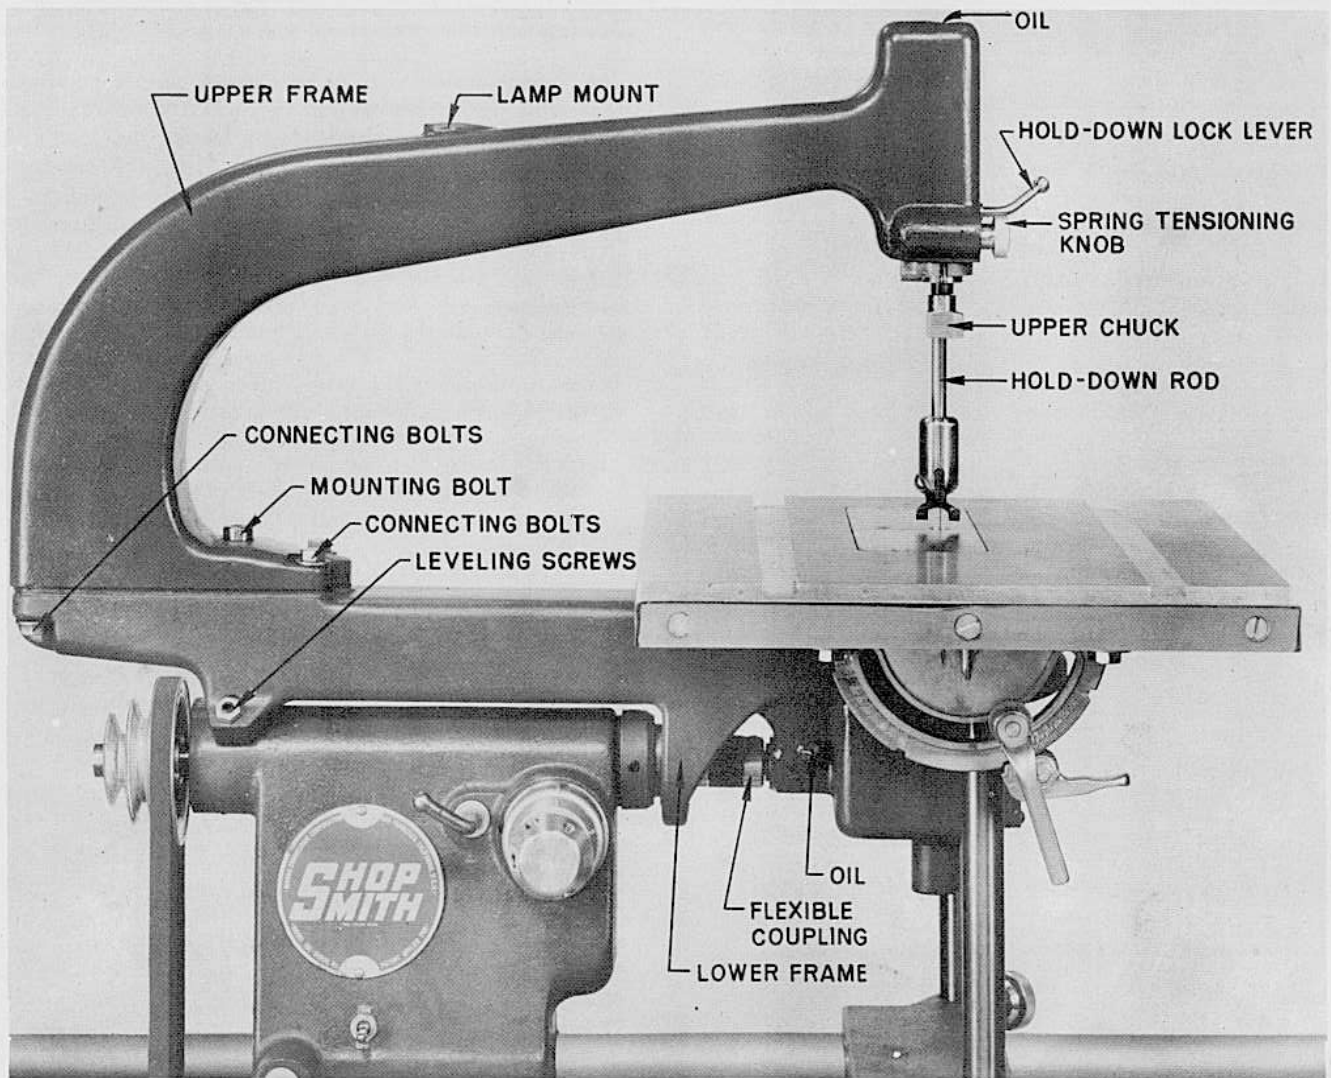

Fig. 2
1. On the pump leather seal of the blower (Fig. 2).
3. In the oil hole on the front of the lower frame (Fig. 2).